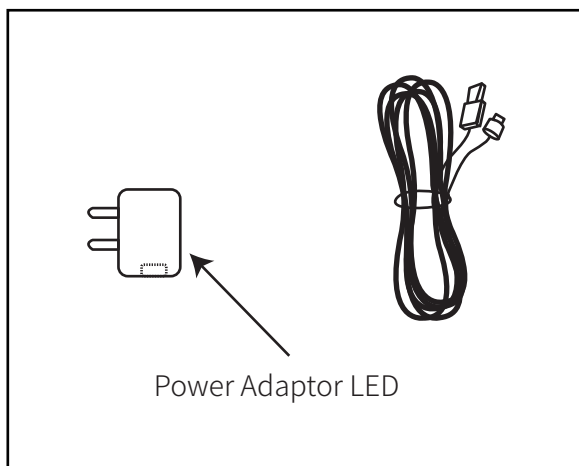
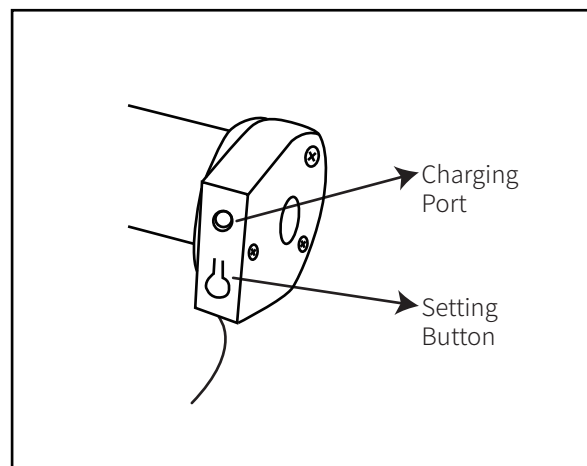

Figure 1: Charging cord
Figure 2: Motor end
2. **Press & hold** the **Setting Button** (Figure 2) on the shade motor end until the shade jogs once; let go and you'll hear a long beep.
If for some reason shade direction is reversed , **Press & hold the Setting Button** (figure 2) on the shade motor end until the shade jogs 2 times .
- Insert the charging cord (Figure 1) into the charging port on the end of the motor tube(Figure 2) , and plug the other end of the power adaptor into an outlet.
- 1 . **Press hold** the **Setting Button** (Figure 2) on the shade motor end until the shade jogs 3 times then beeps 3 times . This removes all programming.